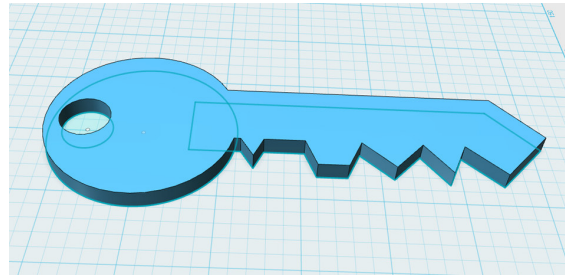

Figure 4-132 The circles and polyline, extruded into a single key shape
5. Hover over the gear icon and select the Extrude feature. Extrude your key by pulling up on the arrow (Figure 4-132).